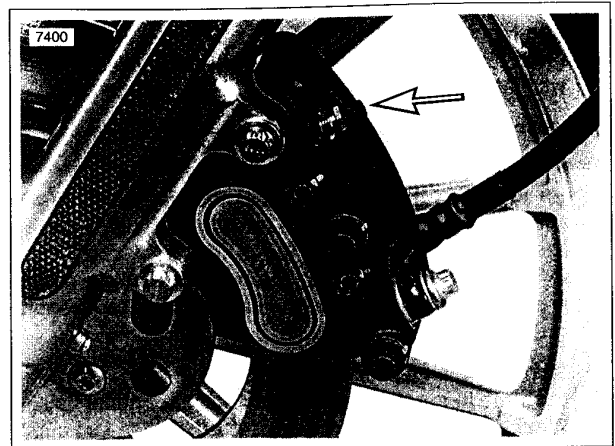

Figure 1-13. Front Brake Bleeder Valve
- a. Front brake bleeder valve-see Figure 1-13.